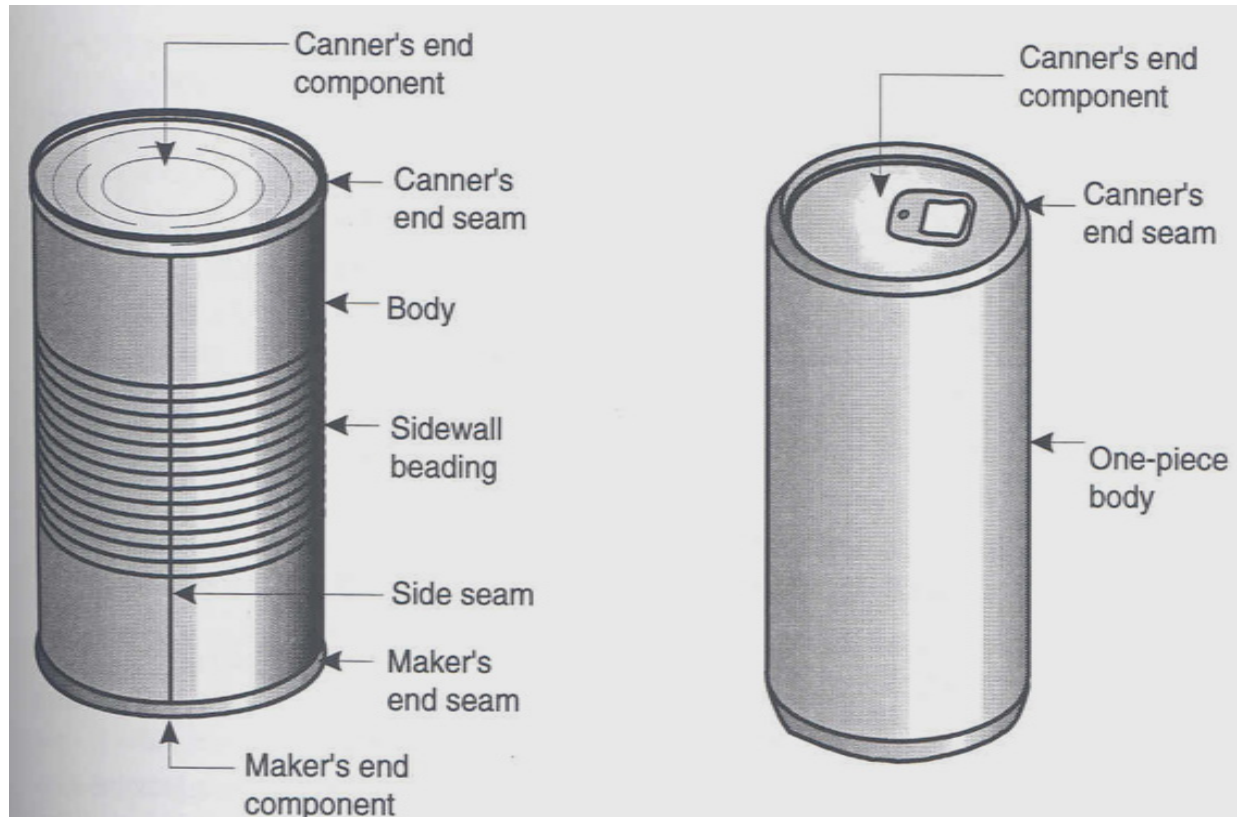

Figure 5.1 Three-piece (left) and two-piece(right) can construction
- **Food cans:** three-piece construction (Figure 5.1).
- **Two-piece cans** (Figure 5.1).